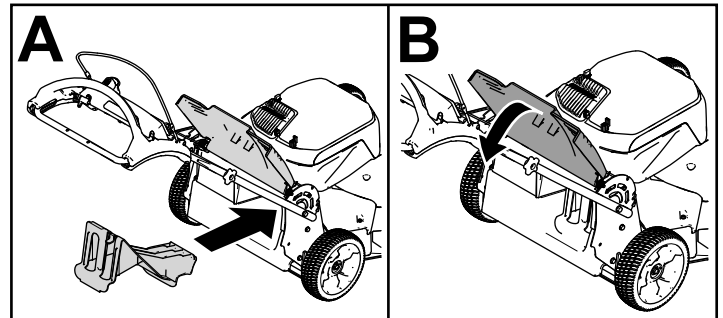

Figure 17
- If the rear-discharge plug is not installed, grip it by the handle, raise the rear deflector, and insert it into the rear-discharge chute until the latch locks into place; refer to Figure 17.
Important: Ensure that the rear-discharge plug is in place before you recycle the clippings (Figure 17).